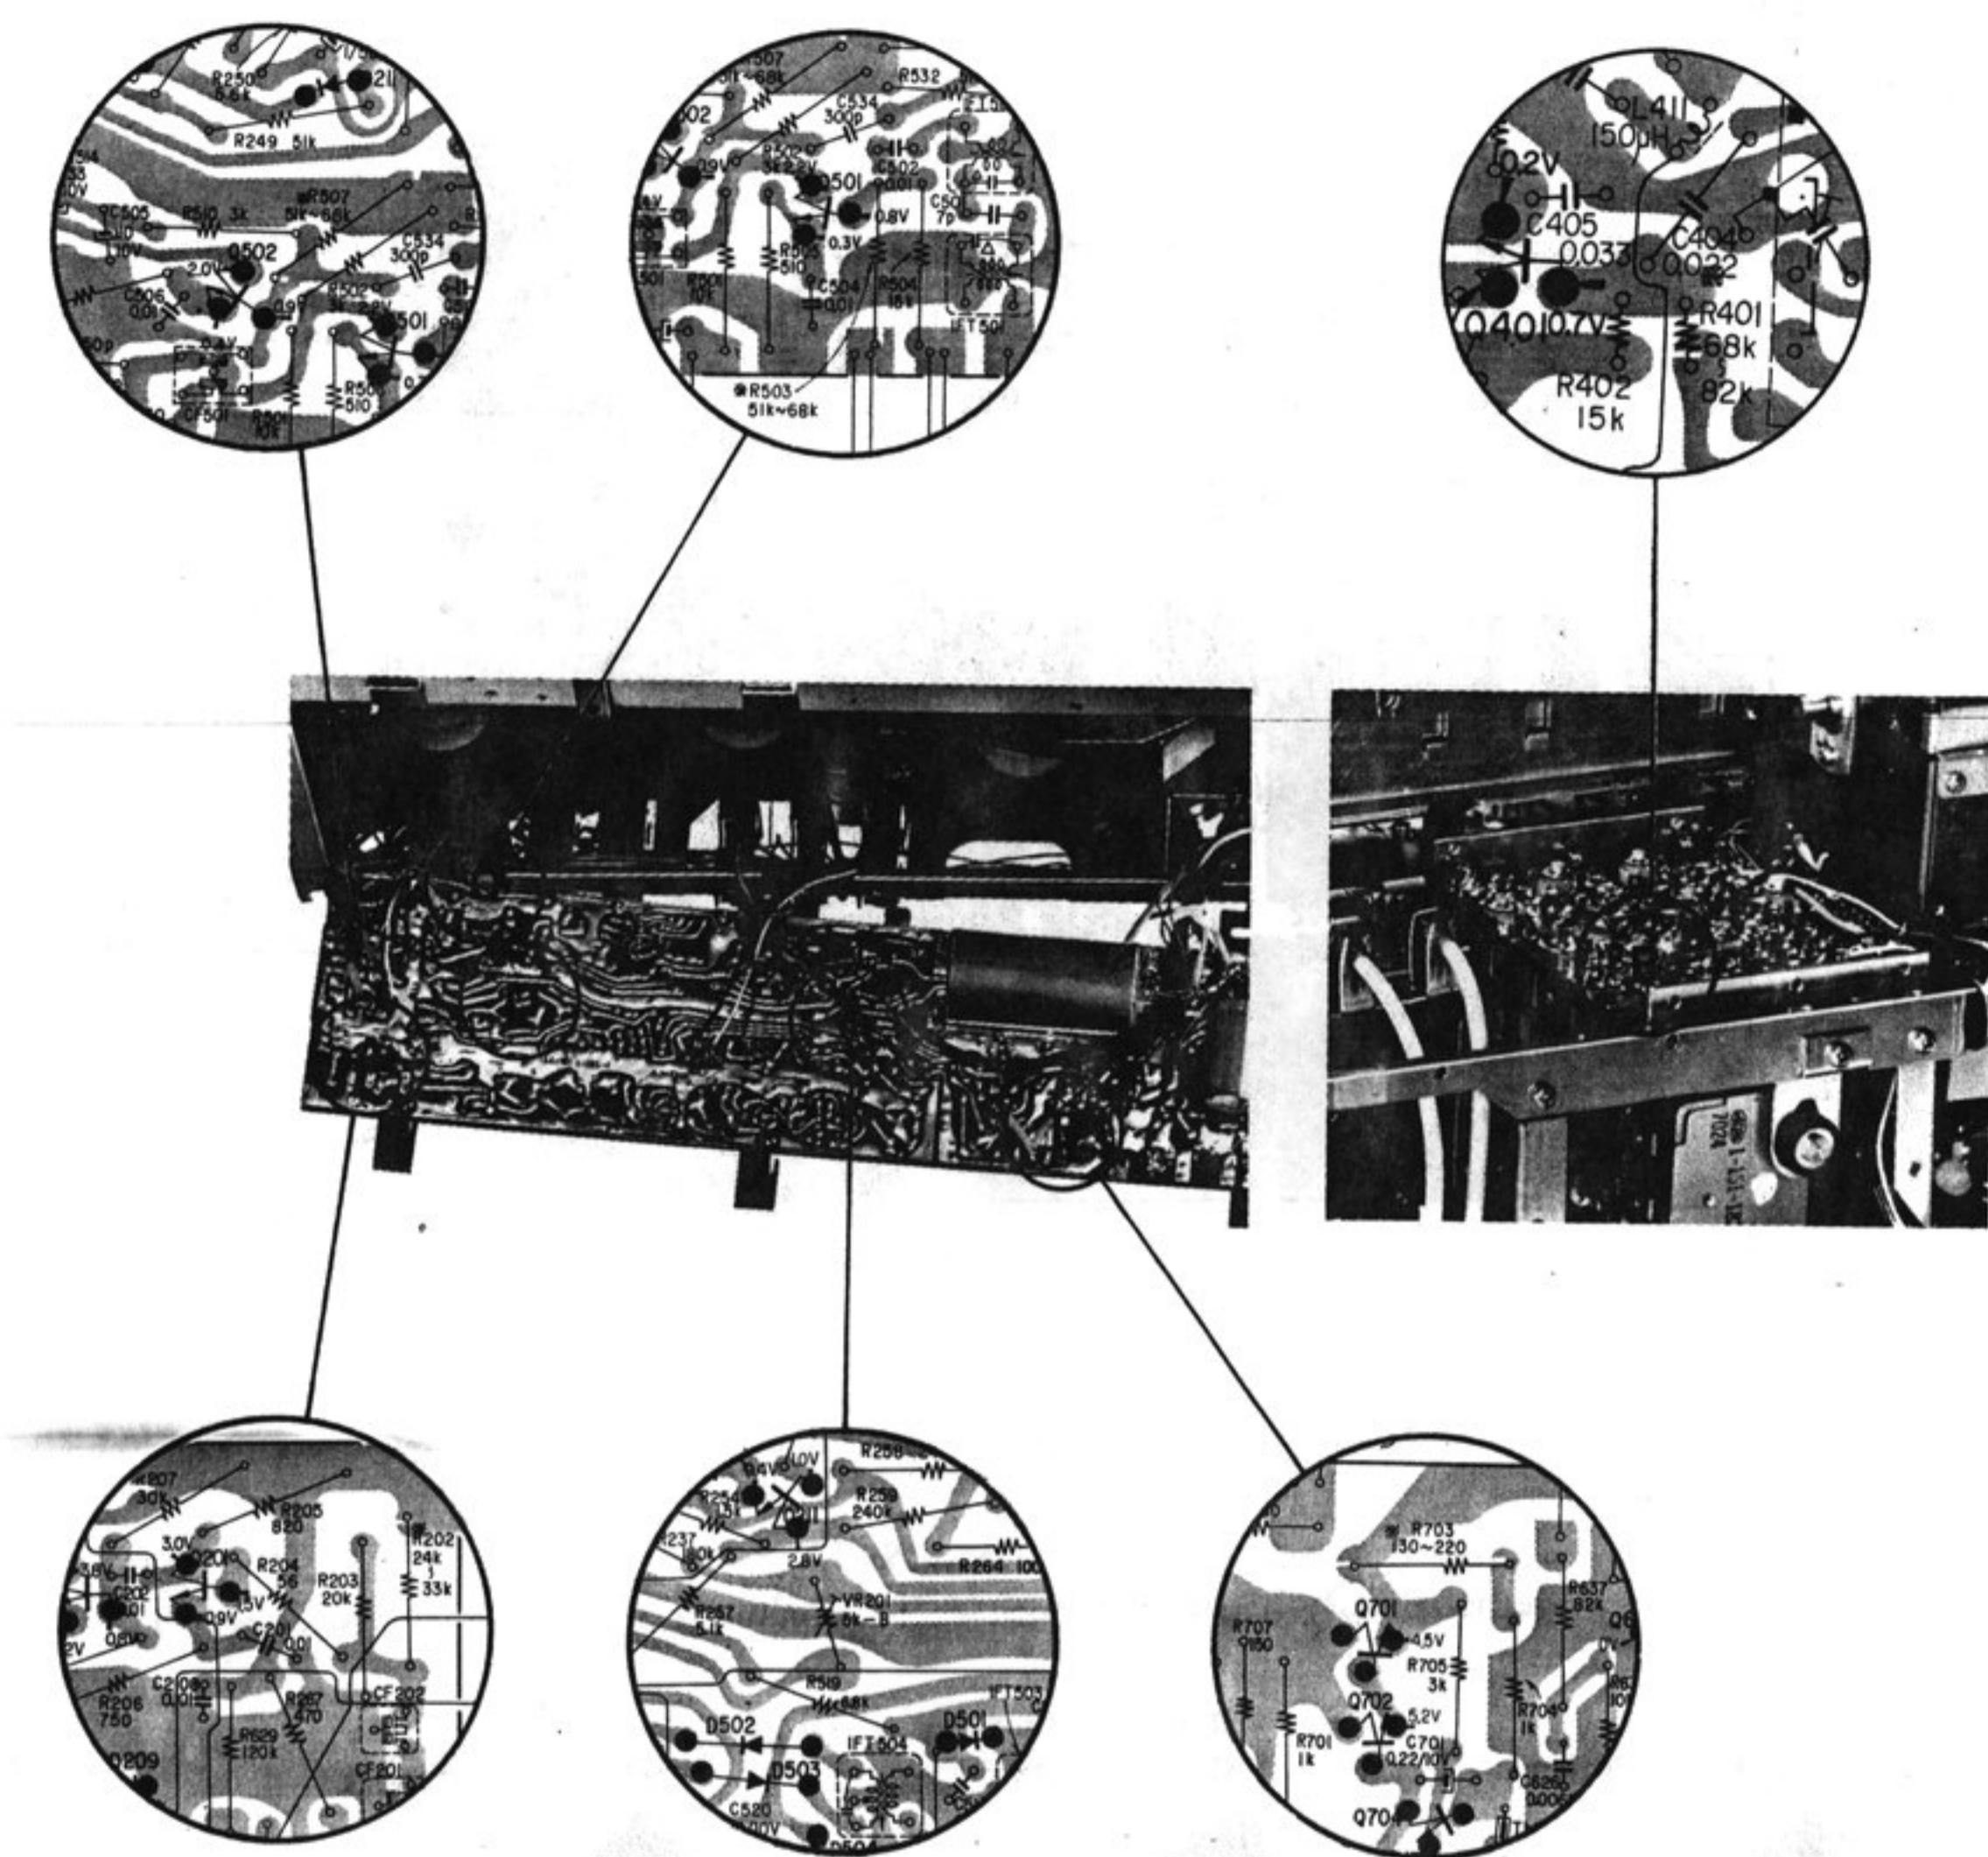

Fig. 3-18 Adjustment locations for voltage and current adjustment
Locate R202 from Fig. 3-18.
Locate R401 from Fig. 3-18.
Locate R503 from Fig. 3-18.
2. Select the resistance value of R507 to obtain 0.40 ± 0.04 V at the emitter of Q502. Then collector current may be adjusted at $800\mu A$. Locate R507 from Fig. 3-18.
Locate R703 from Fig. 3-18.
3. Adjust the adjustable resistor VR201 (5 k Ω) so that the meter indicates between 8 and 9. Locate VR201 from Fig. 3-18.